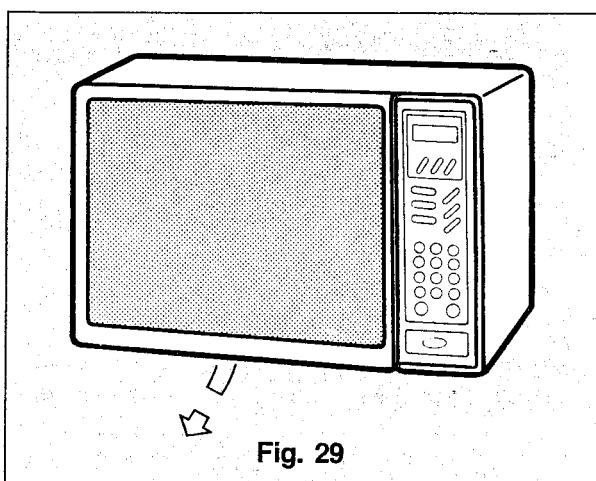

Fig. 29
- 3) Remove turn-table motor cover ②.
- 4) Remove two screw ③.
- 5) Remove turn-table motor ⑤.
12. Check the Gap between the Door Seal and the Oven Front Plate (Refer to Fig. 29)